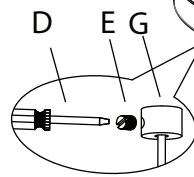
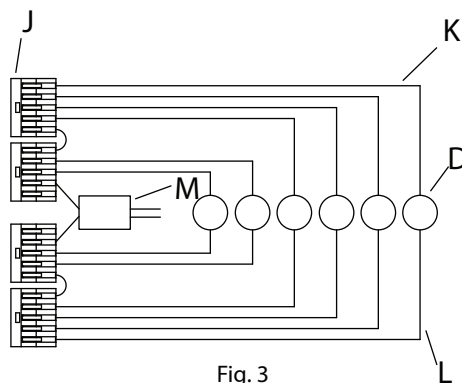

Fig. 2
Fig. 3
1. Shut off power to the outlet box (A).
2. Unscrew glass (B) from fixture (C).
3. Determine the height at which the fixture is to be hung. Use the screwdriver (D) to loosen the set screws (E). Feed the power cords (F) through the bushings (G) on the canopy (H). Adjust the cords (F) to the desired length. Tighten the set screws to set.
4. Connect the fixture wires to the lever nuts (J) by pulling up on the lever for an empty slot (Fig. 2), inserting the wire, and pushing the lever back down to lock. The white inner conductor (K) and black outer conductor (L) on each cord (F) must be connected to separate lever nuts, as shown (Fig. 3).
- a. Connect the transformer's (M) live wire (black) to the live outlet box wire.
- b. Connect the transformer's (M) neutral wire (white) to the neutral outlet box wire.
- d. Carefully place connections and transformer (M) in outlet box (A).
6. Reserve extra cords (F) and lever nuts (J) in canopy (H).
7. Attach cross bar (N) to the outlet box (A), secure with outlet box screws (P).
8. Attach canopy (H) to nipple (Q), secure with finial (R).
9. Install included G4 LED bulbs (S).
10. Screw glass (B) onto fixture (C).